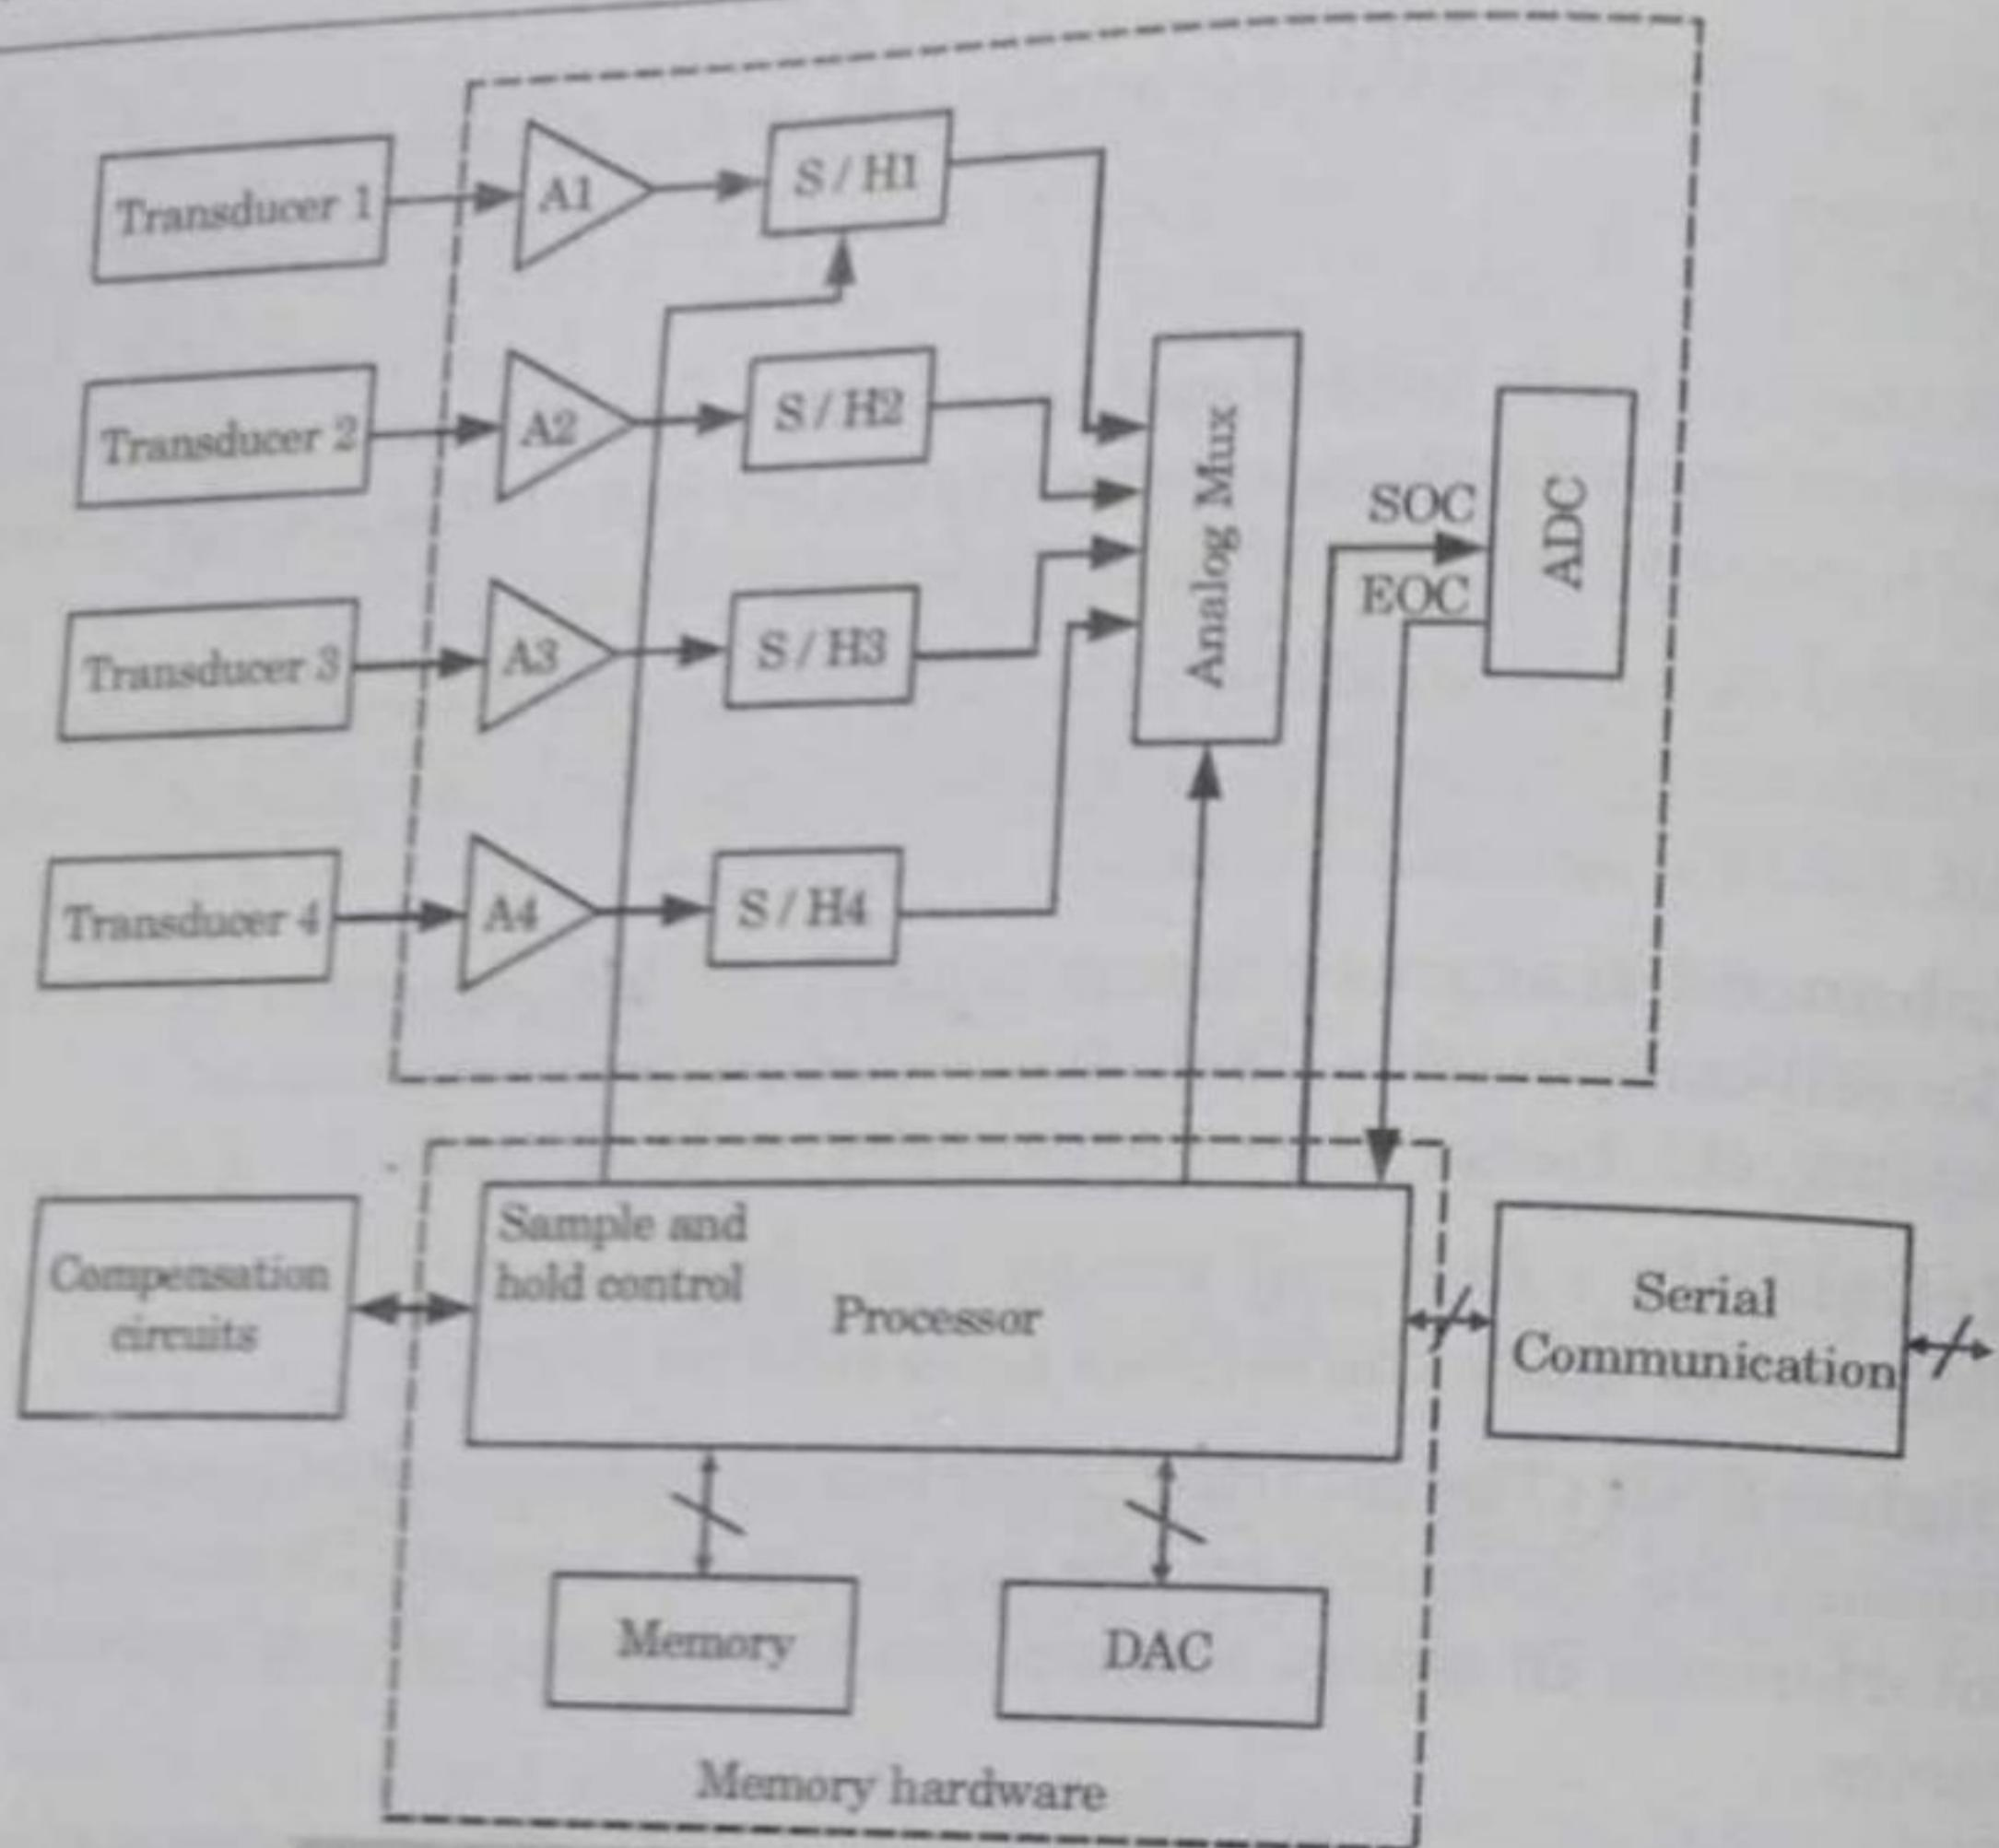

Fig. 5.4.2. Architecture of a smart sensor.
2. The detailed architecture of a smart sensor is shown in Fig. 5.4.2.